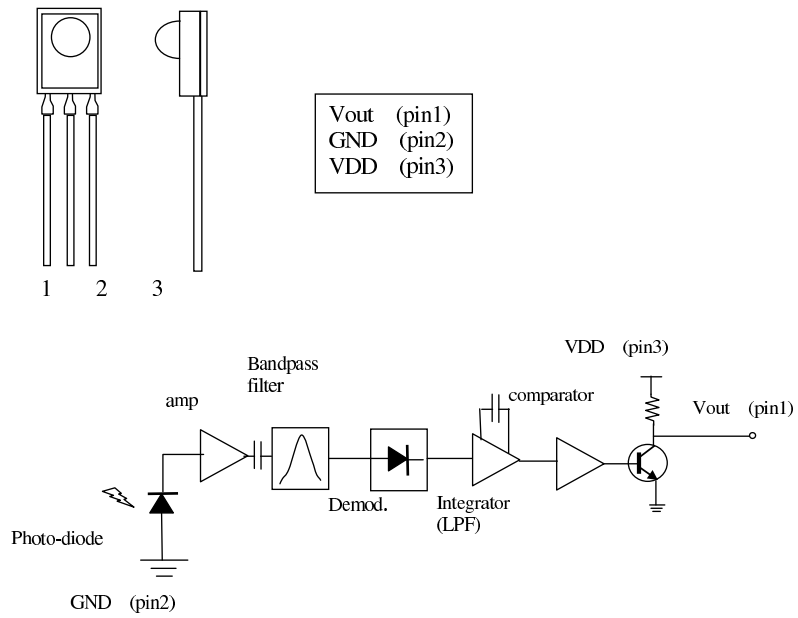

FIGURE 8. PNA4601M Receiver Module
While the conceptual function of the **trans** and **demod** subsystems is straightforward, the actual implementation can be somewhat more involved. This is because the receiver's performance must be robust to distortions introduced by the channel. In practice, therefore, the **trans** and **demod** subsystems consist of additional subsystems. In figure 8 we show the block diagram for an integrated circuit (IC) that incorporates the photodetection, transducer, and demodulation functions into a single chip. Let's step through this block diagram.
The IR beam is received by a photodiode shown on the left hand side of figure 8. The output of the photodiode goes through a buffering amplifier which is then fed through a bandpass filter. The purpose of the bandpass filter is to only select out those frequencies in the neighborhood of the carrier wave. So if there are additional frequency components in the received signal (due perhaps to the channel), these are removed by the bandpass filter. The output of the bandpass filter goes through a demodulator. The demodulator consists essentially of a diode whose purpose is to rectify the signal. The rectified signal is sent through a lowpass filter to remove high frequency harmonics that may have been introduced by the rectification function. The final signal leaving the lowpass filter will not be a sharp set of pulses (due to distortion introduced by the channel and our demodulator's filter functions), so we introduce a comparator to "clean-up" the distorted pulses received by the module. The output of the modulator then feeds a single transistor current source.